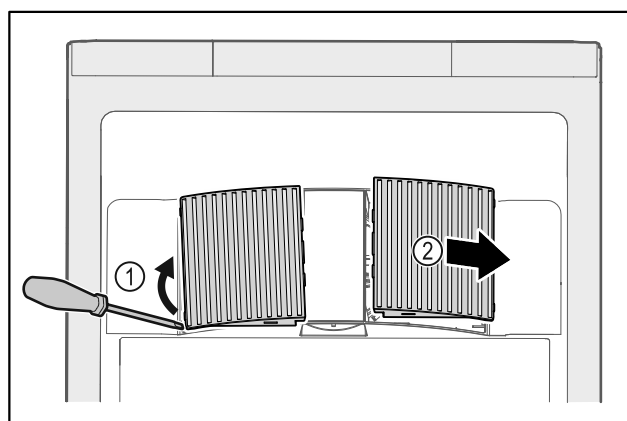

Fig. 198
- ▶ Carefully lever out fan covers from the side Fig. 198 (1) and remove towards the front Fig. 198 (2).